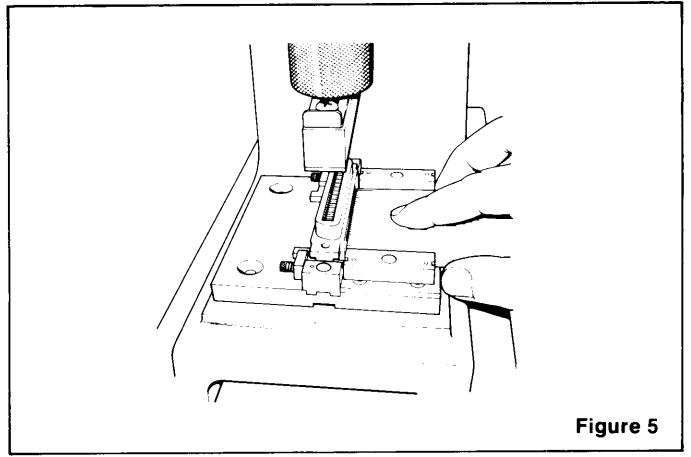

Figure 5
4. Position connector body over cable-cover assembly and lower assembly press handle to complete the termination. (Figure 5)